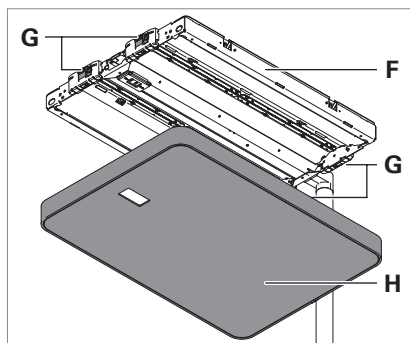

Fig. 23: Dismounting the cover frame.
- Press all four detent hooks **G** until the cover frame **H** is released and take the cover frame off the light chassis **F** moving it downward, see Fig. 23.